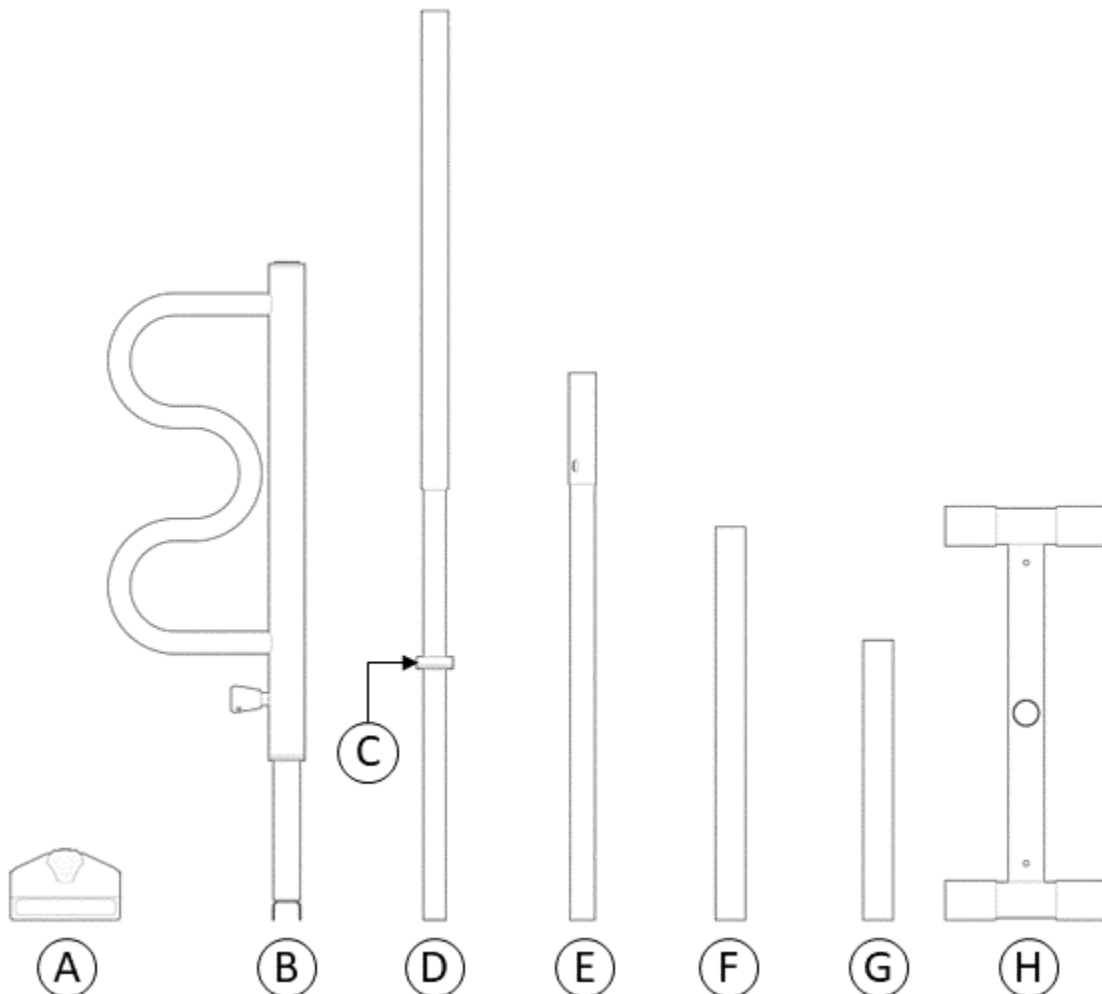

FIGURE 1
1. Remove the product from box/packaging. Remove black packaging component from **B**. Remove plastic sleeves **F** and **G** from **D**. Identify all parts as shown in *FIGURE 1*.